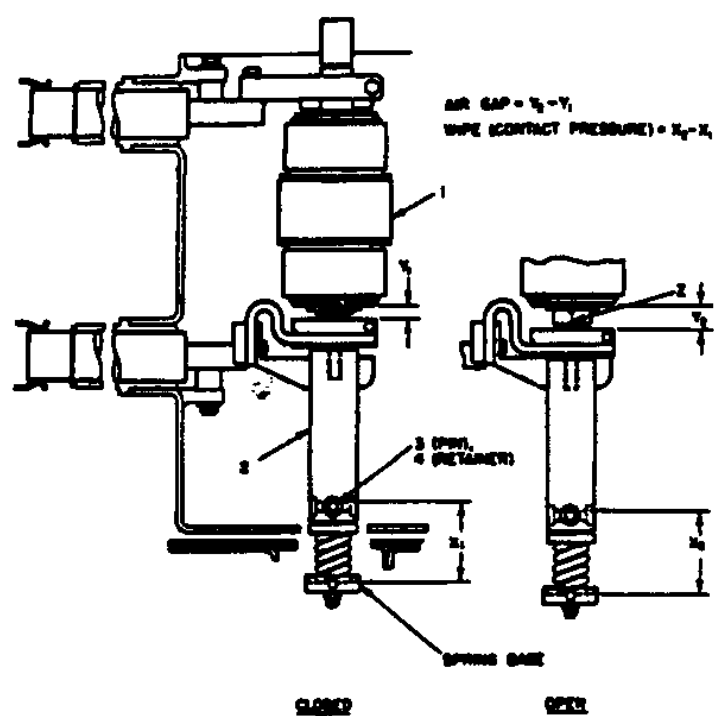

Fig. 5 — Contact Pressure
3. Contact wipe (contact pressure) (See Fig. 5). The contact air gap and contact wipe is set at the factory by setting the vertical position of the interrupter (1) and the vertical position of the pushrod (2). These parts should not be repositioned in the field unless a pushrod change is required to correct contact sequence as described elsewhere. Contact wipe is set at the factory at .11 minimum. Contact erosion and wear in mechanical parts will cause a reduction in contact wipe over the life of the breaker and a check should be made to insure that the wipe is not less than .020". The measurement is made as follows for the three poles:
4. Contact Air Gap (See Fig. 5) The contact air gap is set at the factory at the nominal dimension of .43. This value will normally increase as the contacts erode. A check of the contact air gap checks that the breaker does open fully and that the gap is sufficient to withstand the applied voltage. The measurement is made as follows for the three poles.
5. Contact sequence (See Fig. 5). All three poles should touch within 2 millisecond at normal closing speeds. An oscilloscope, oscillograph or other timing method may be used to establish the 2 millisecond timing.